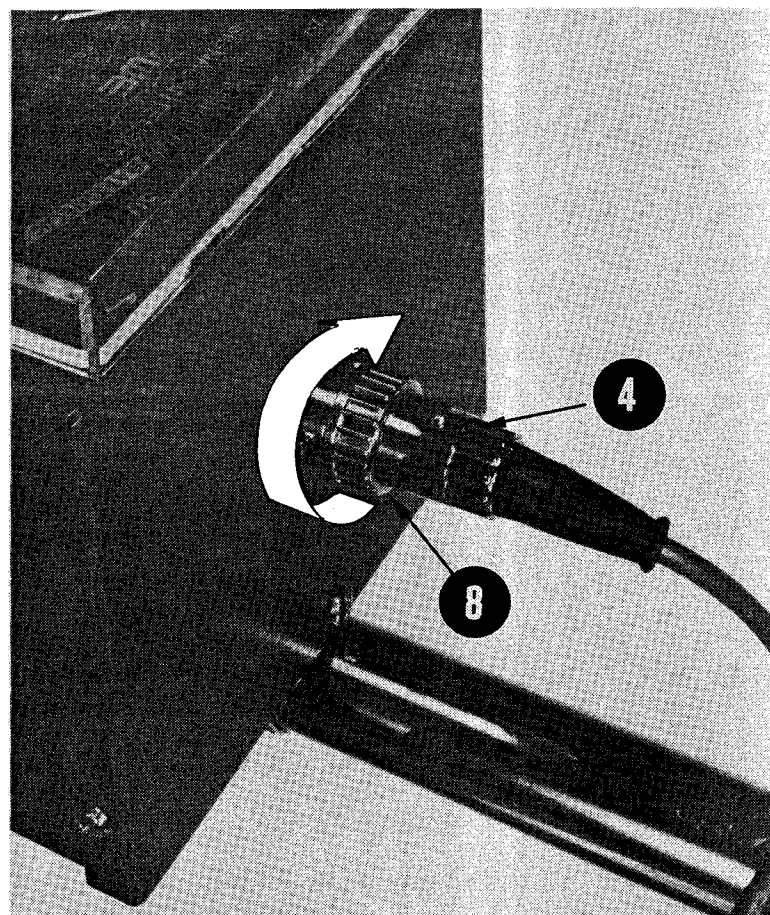

Figure 5
A. Wrap Loop Cable (1) around Loop Rod (2) as in picture on Page 1.
B. Line up Ridge (3) on inside of Twistlock Connector (4) with Slot (5) on inside of Plug (6) on front of Instrument Case (7).
C. Insert Twistlock Connector (4) into Plug (6) taking care not to use too much force - it should go in very easily.
D. With Twistlock Connector (4) firmly seated, turn Locking Ring (8) to the RIGHT as shown in Figure 5.